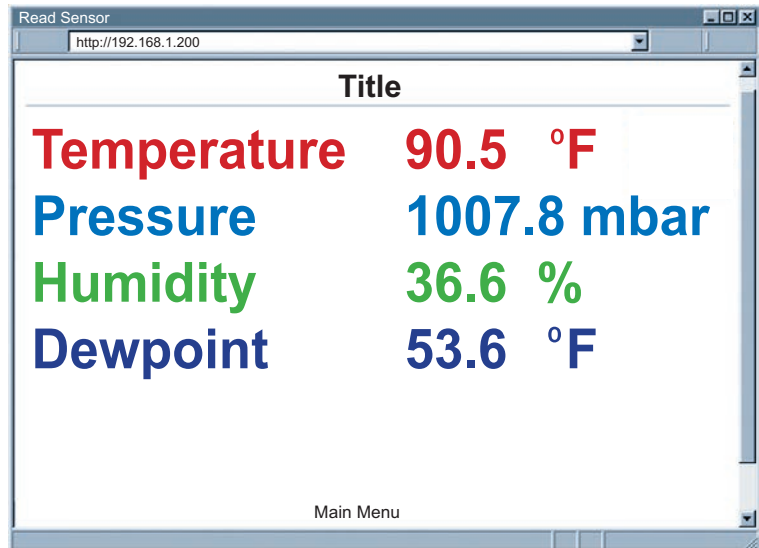

Figure 4.7 Read Sensor
- Click on Read Sensor. In a few seconds the following page (**Figure 4.7**) will appear with all default values of 100.00. Then the actual readings of Temperature, Pressure, Humidity and Dewpoint will display.